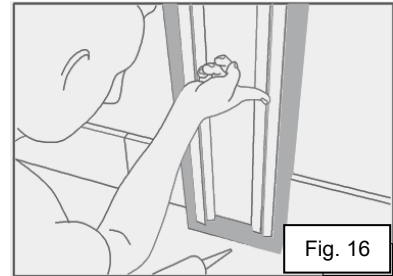

Fig. 16
- 9.6. Spread the silicon caulk with a finger or a caulking applicator (fig.16 & 17).